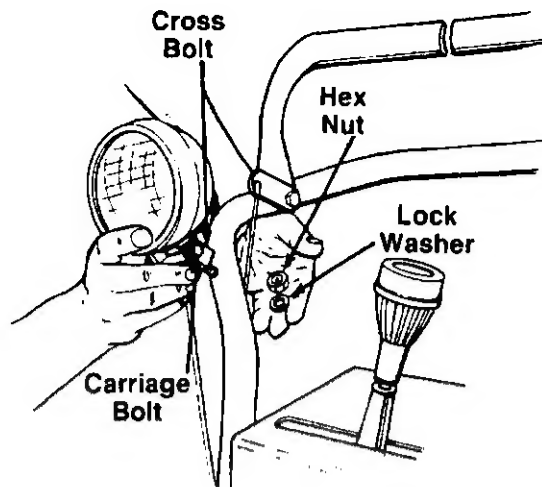

FIGURE 7.
1. Insert the carriage bolt on the bottom of the headlight assembly through the hole provided on the right hand side of upper handle. See figure 7.
3. Pivot the headlight so it will illuminate the path to be cleared. Tighten the cross bolt to hold the headlight in this position. See figure 7.